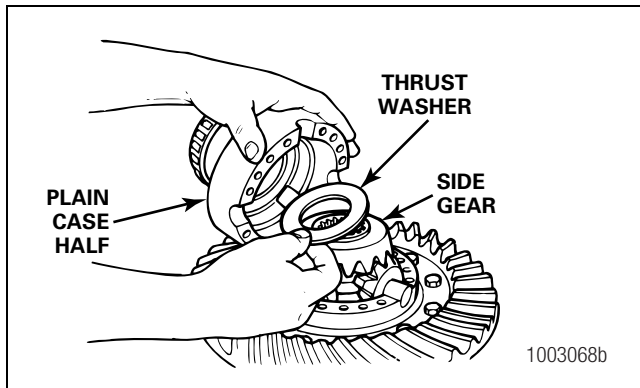
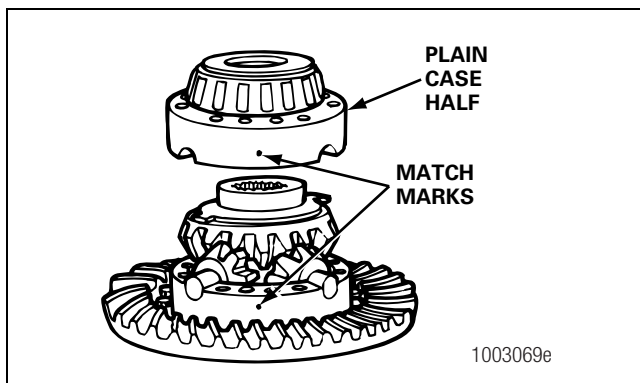

Figure 5.43
Figure 5.44
13. Install the second side gear and thrust washer over the spider and differential pinions. Figure 5.43.
14. Place the plain half of the differential case over the flange half and gears. Rotate the plain half to align the match marks. Figure 5.43 and Figure 5.44.